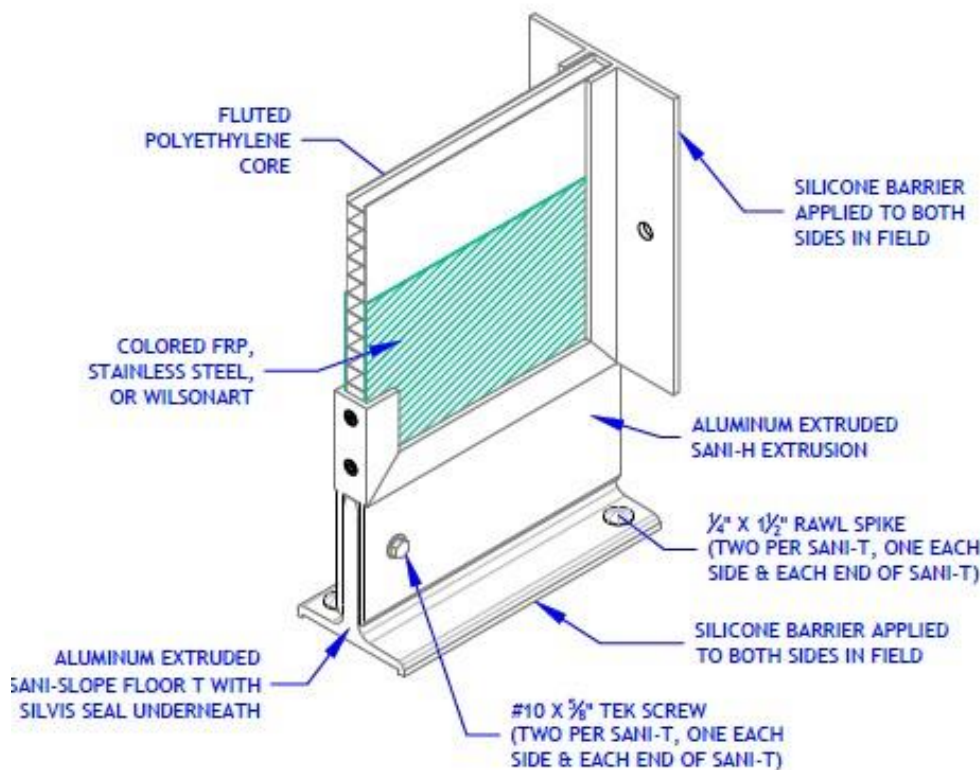

Figure 15
3. Repeat steps F-1 and F-3 for all hole locations shown in Figure 15.
2. Apply a thin bead of sealant provided along the seam created between the “Sanislope T” and the concrete as shown in Figure 15.